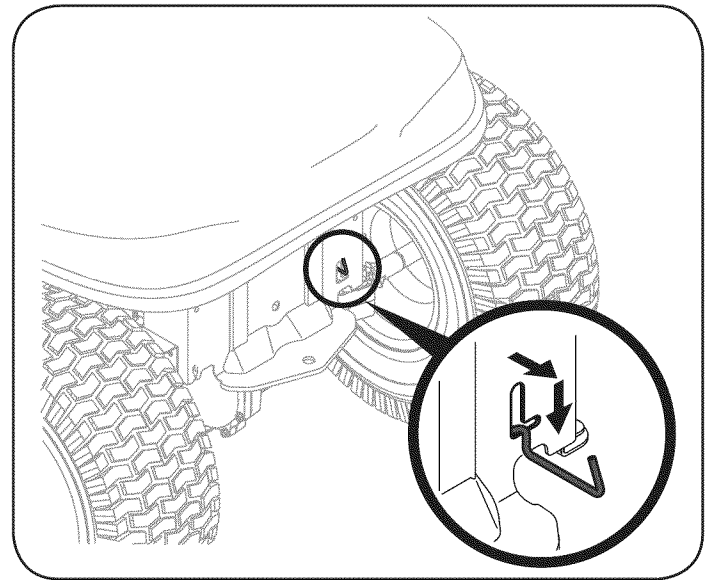

Figure 11
1. Locate the hydrostatic bypass rod in the rear of the tractor. See Figure 11.